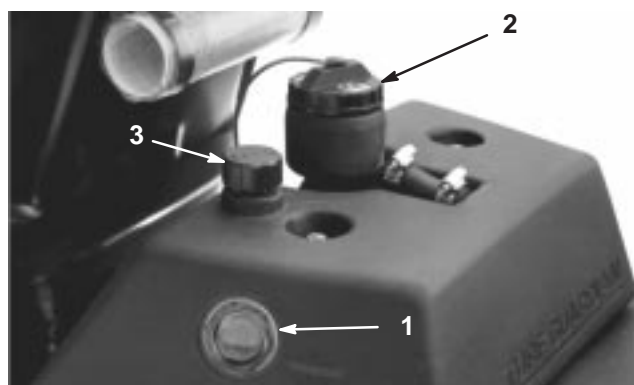

Figure 16
1. Position the machine on a level surface. Make sure the machine has cooled down so the oil is cold. Check the oil level by viewing the sight gauge on the side of the auxiliary oil tank (Fig. 16). If the oil level is up to the Full mark next to the gauge, the oil level is sufficient.